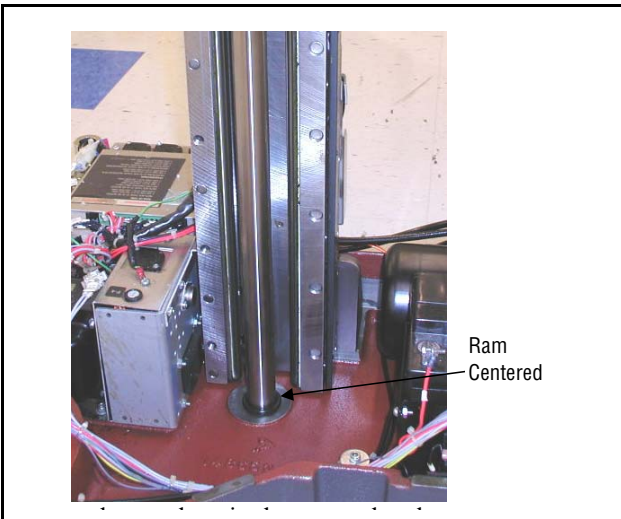

Figure 7-16. Center Ram
18. Ensure ram is pointing straight down to center of area in base as shown in Figure 7-16.